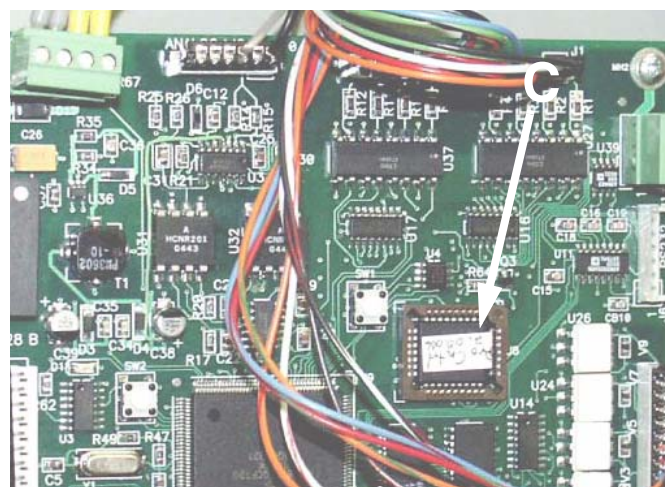

FIG. 14
3. Remove display board chip (C - FIG. 14) with removal tool.